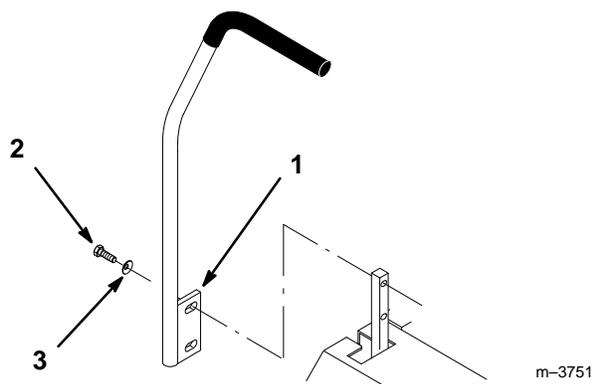

Figure 3
8. Remove the (4) 3/8–16 x 1” (26 mm) bolts and (4) 3/8” spring washers which attach the motion control levers to the control arm shafts for shipping (Fig. 3).
9. Place the levers (with the mounting plate towards the rear) on the outside of the control arm shaft and secure with (4) 3/8–16 x 1” (26 mm) bolts and (4) 3/8” spring washers (Fig. 3).
11. Align the front/rear position of the levers, with each other, in the neutral position. Loosen hardware and adjustment by sliding/tilting the lever(s) forward or backward until properly aligned (Fig. 3).